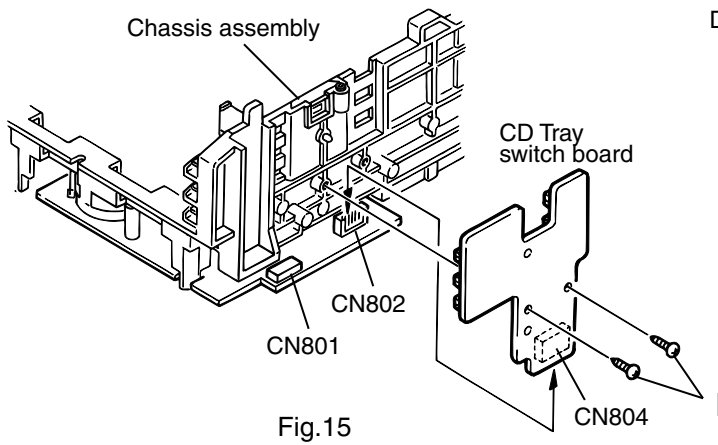

Fig.15
3. Remove the two screws **I** retaining the tray select switch board(See Fig.15).
■ Removing the cam unit (See Fig.15 ~ 18)
2. While turning the cam gear **L**, align the pawl **n** position of the drive unit to the notch position(Fig.15) on the cam gear **L**.